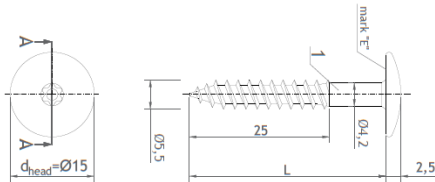

Figure 3 - Equitone UNI screw 5,5xL K15
- EQUITONE stainless UNI metal screw (see Figure 3) into metal battens or sub framing system